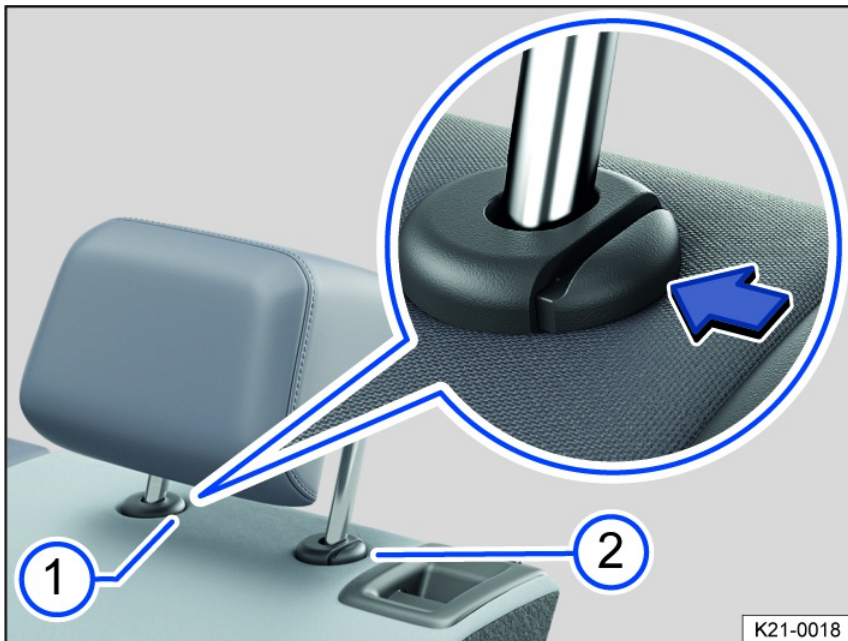

Fig. 68 General example: removing the rear head restraint.
3. Press the button *fig. 68* on the head restraint guide.
4. At the same time, press button (2) while a second person pulls the head restraint all the way out.
3. Push the head restraint downward while pressing the fig. 68 button.